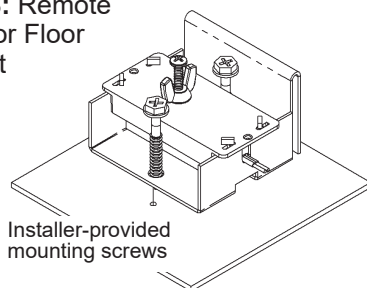

**Fig. 6:** Remote Spot Sensor Pan Rim Mounting
1. The sensor can be secured to a flat surface using the adhesive mounting strips (Fig. 7) or a screw (Fig. 8). It can also be mounted to a drip pan rim using the provided 7/64" hex set screws as shown in Fig. 6. If using the adhesive mounting strip, clean the surface before adhering.